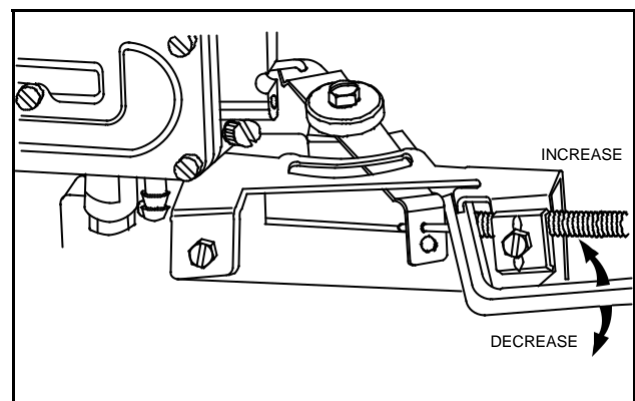

Fig. 36 – Adjust Top-No-Load
7. Bend tang to obtain specified Top-No-Load RPM, Fig. 36.